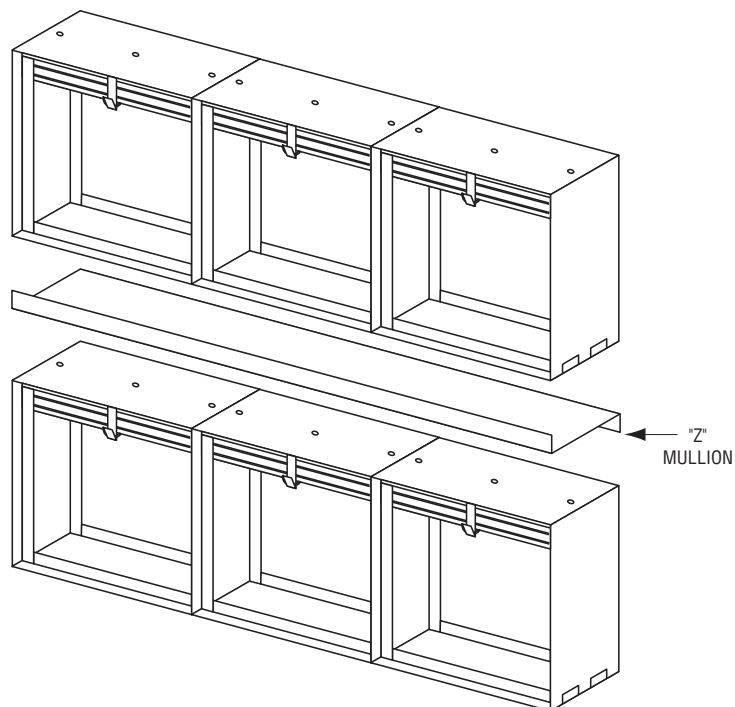

Figure 3.
Vertical dampers, 3 hr. label multiple sections require a 16 ga. x 6" (1.61 ga. x 152) wide "Z" mullion with 7/8" (22) flanges shall be placed between any horizontal joints (see Figure 3). The frames shall be joined together using 3/16" (4.76) bolts and nuts, 1/4" (6) long welds or #8 sheet metal screws, 6" (152) max. on center.